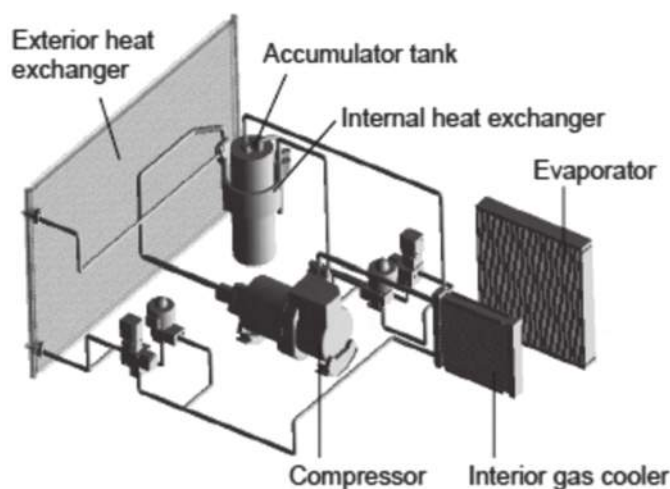

Fig. 3: Layout of CO₂ car air conditioning system (Denso)
In 1993, Professor Lorenten first tested a prototype CO₂ system for automobile air-conditioning at Norway Institute of Technology. In 1995, actual research began and developments progressed until it was found that CO₂ had a global warming factor of only 1/1,300th of HFC-134a, and could be used as a refrigerant gas with a high efficiency heat pump. Thus, the merits of CO₂ were finally realized. Initial result motivated the number of development and projects, initiated by research sector and industries in European countries, Japan and USA. Various techniques have been developed to control high side system pressure. Denso of Japan has developed first CO₂ air conditioning system for car (Figure 3). Visteon of Europe developed car air-conditioning system using CO₂ as refrigerant. Volkswagen, Daimler, Audi, BMW and Porsche have announced plans to develop CO₂ technology as a more climate-friendly refrigerant for air conditioning systems. Nissan Motor Co Ltd, is willing to launch the fuel cell vehicles (FCVs) equipped with a CO₂ air-conditioning system, jointly developed by Nissan and
Fig. 3: Showing the drilling (1-2) digging of the pit (3), connection of the manifolds (4), grouting, preparation of the coils (5-6) and the source loop, which consists of two earth loops: one for vapour and one for liquid (7-9)